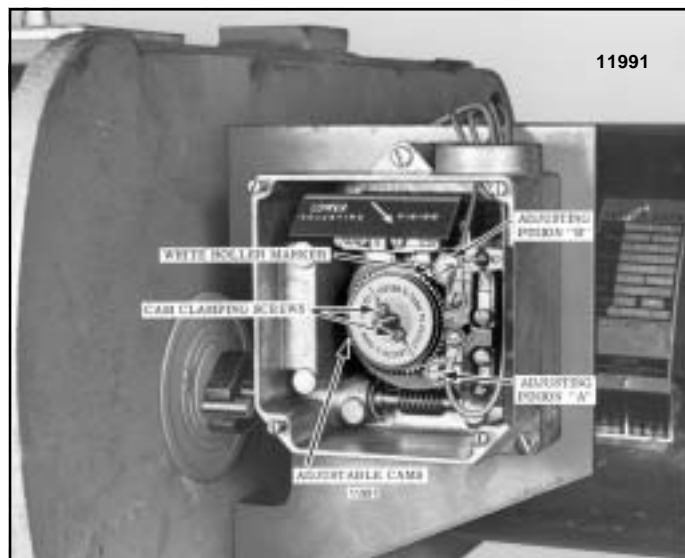

Figure 7-1. Geared Rotary Limit Switch Adjustment (Early Model Hoists)
- a. This limit switch consists of two adjustable cams driven thru gear reduction by a worm gear shaft which flexibly couples to end of drum shaft. Each cam operates the contacts of separate switches; one for hoisting circuit and one for lowering circuit. The switch assembly must be wired in accordance with appropriate wiring diagram which is shipped with the hoist. Adjustment of the rotary limit switch is accomplished as follows: (Refer to Figure 7-1.)